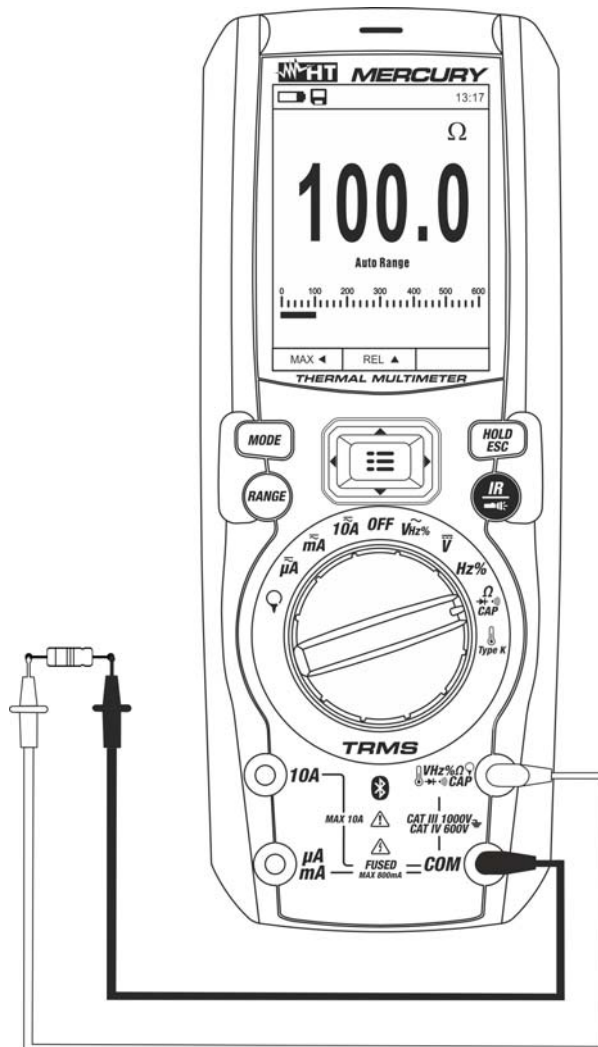

Fig. 24: Use of the instrument for resistance measurement and continuity test
3. Position the test leads in the desired spots of the circuit to be measured (see Fig. 24). The display shows the value of resistance.